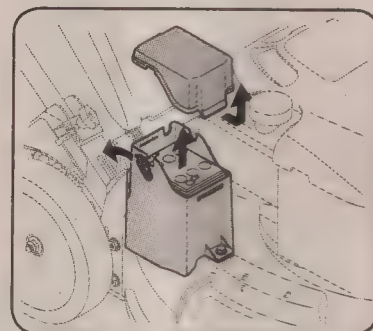

Figure 4-7
2. Remove positive and negative leads from battery, and pull up on battery to remove. See Figure 4-7.